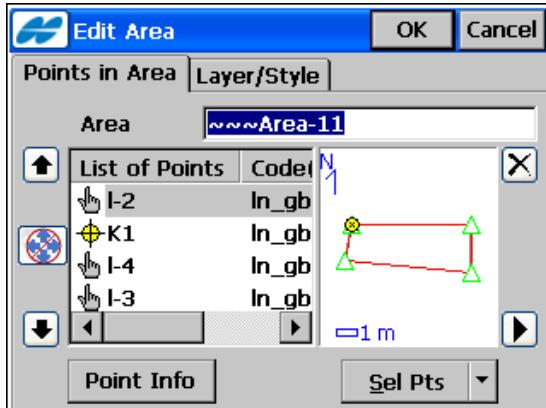

Figure 6-34. Edit Points in Area
- **Edit** – opens the applicable **Edit Area** screen (Figure 6-34 on page 6-30).
On the **Edit Area** screen (Figure 6-34 on page 6-30), you can edit the name, the points, and the layer of the selected area.
The **Points in Area** tab displays a list of existing points (*Area Name*) in the selected Area on the left side of the screen (Figure 6-34), and the general view of the area lines on the right side.